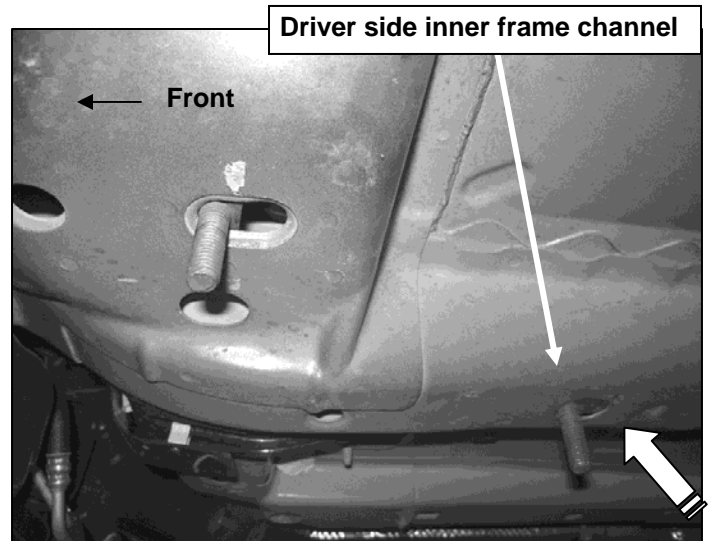

**Fig 2A**
- Starting at the driver side front of the vehicle, locate the three factory holes, (1 round and 2 oval holes), in the bottom of the left front floor panel, **(Figure 1)**. Insert (1) 12mm x 35mm Bolt Plate into the smaller, (inner), oval hole and feed the threaded end back out through the larger, (outer), oval hole, **(Figures 2A & 2B)**. Next, insert (1) 12mm Bolt Plate into the oval hole in the bottom of the inner frame channel, **(Figure 3)**.